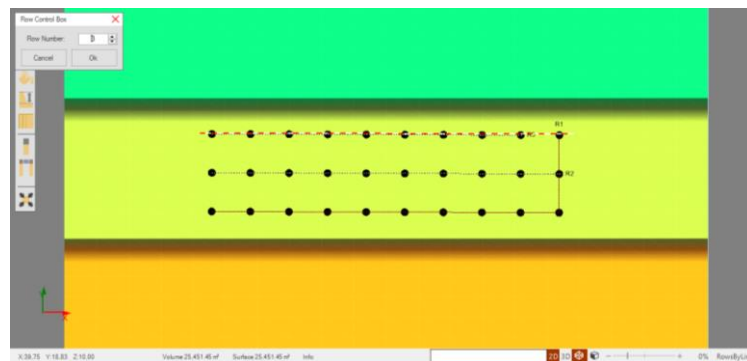

Fig. 161 - Line Editor: By Line
- By line: The user must define the row number in the **Row Control Box** and draw a line over a set of holes to assign a row ID (Fig. 161)